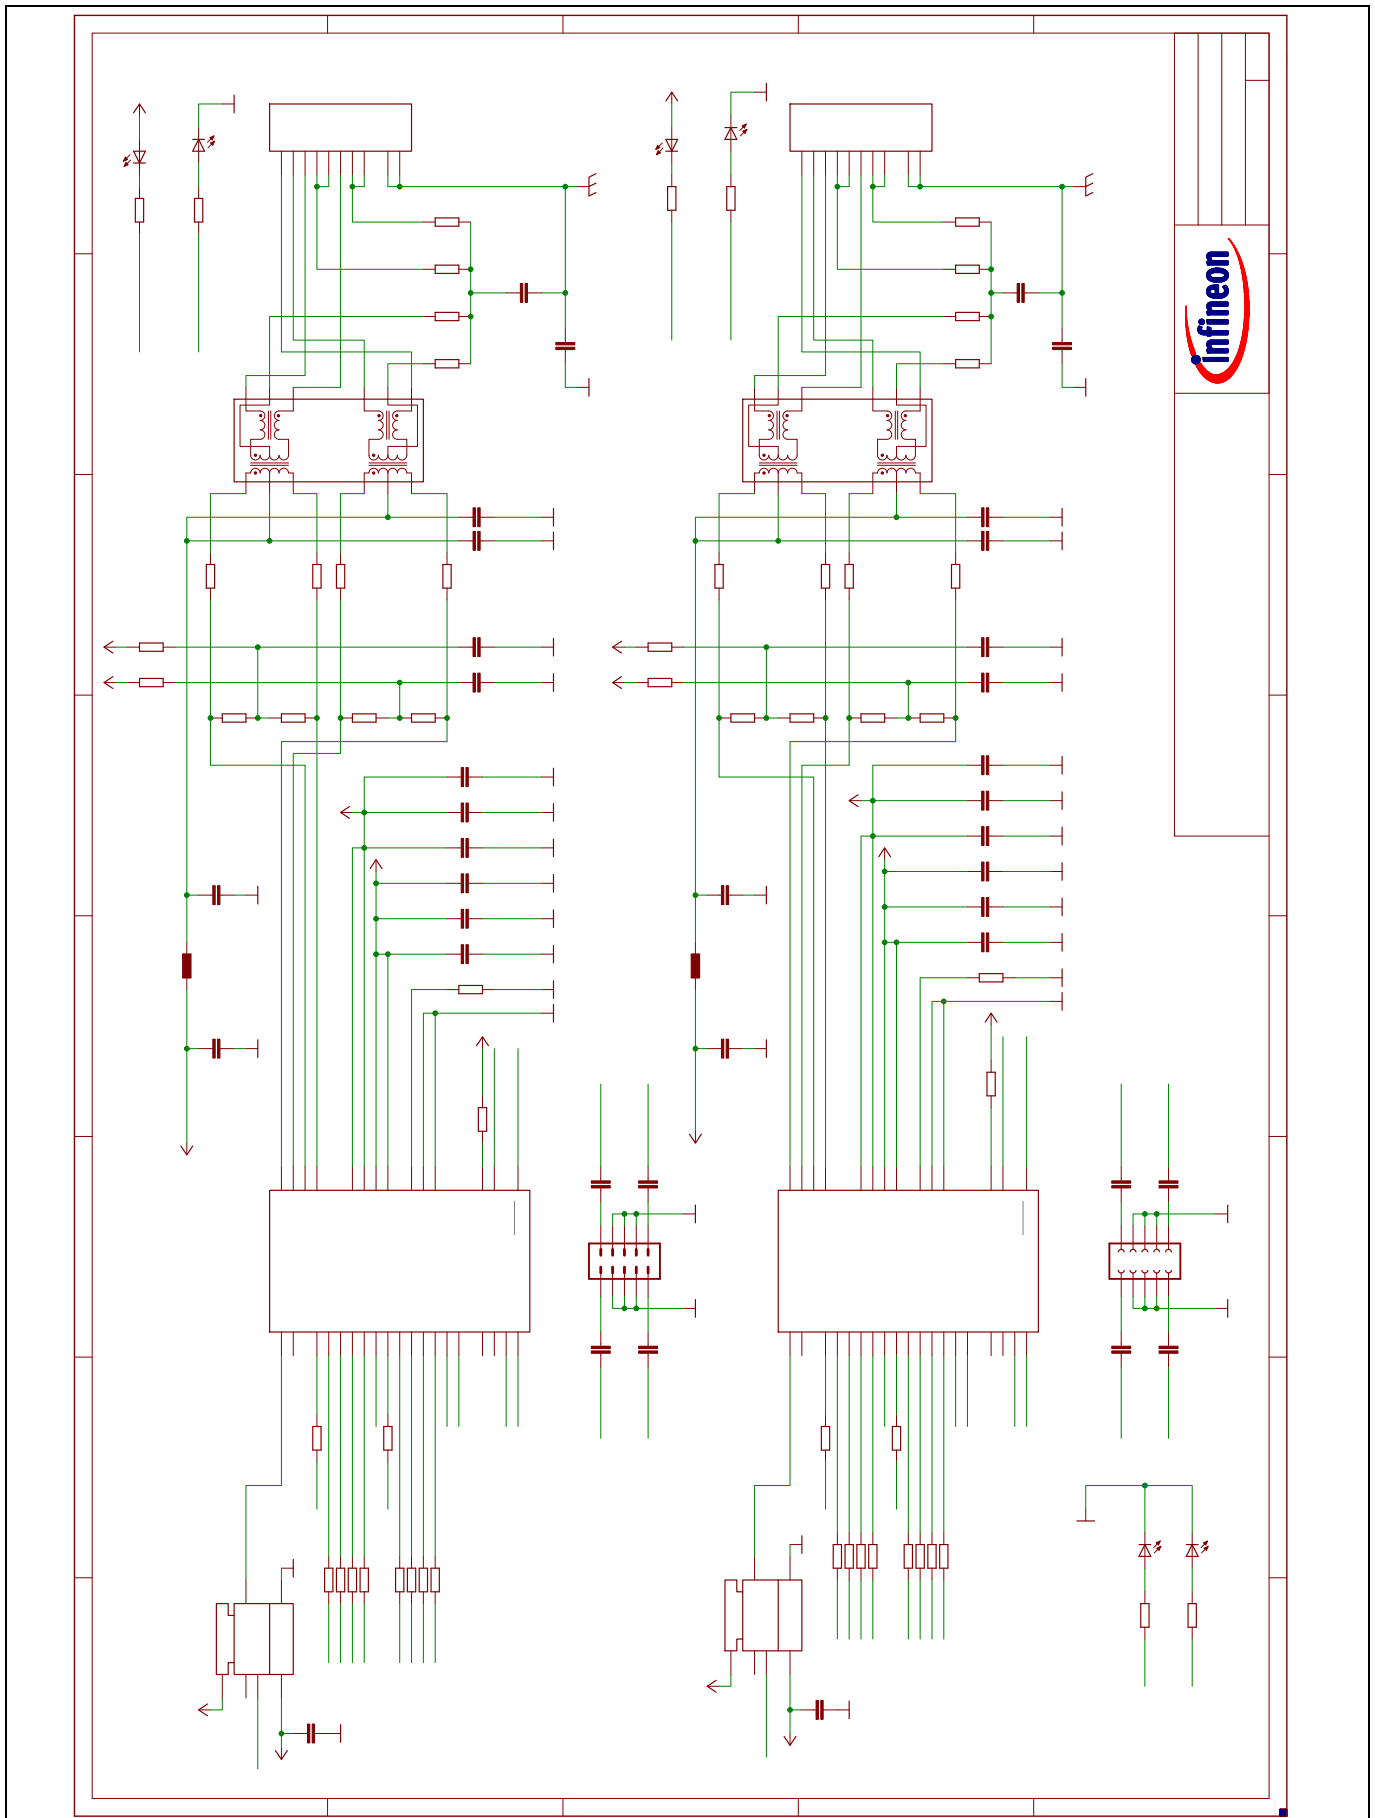

Figure 8 Schematic: EtherCAT® Phys, Magnetics, Phy-2-Phy
- Figure 8: Schematic: EtherCAT® Phys, Magnetics, Phy-2-Phy